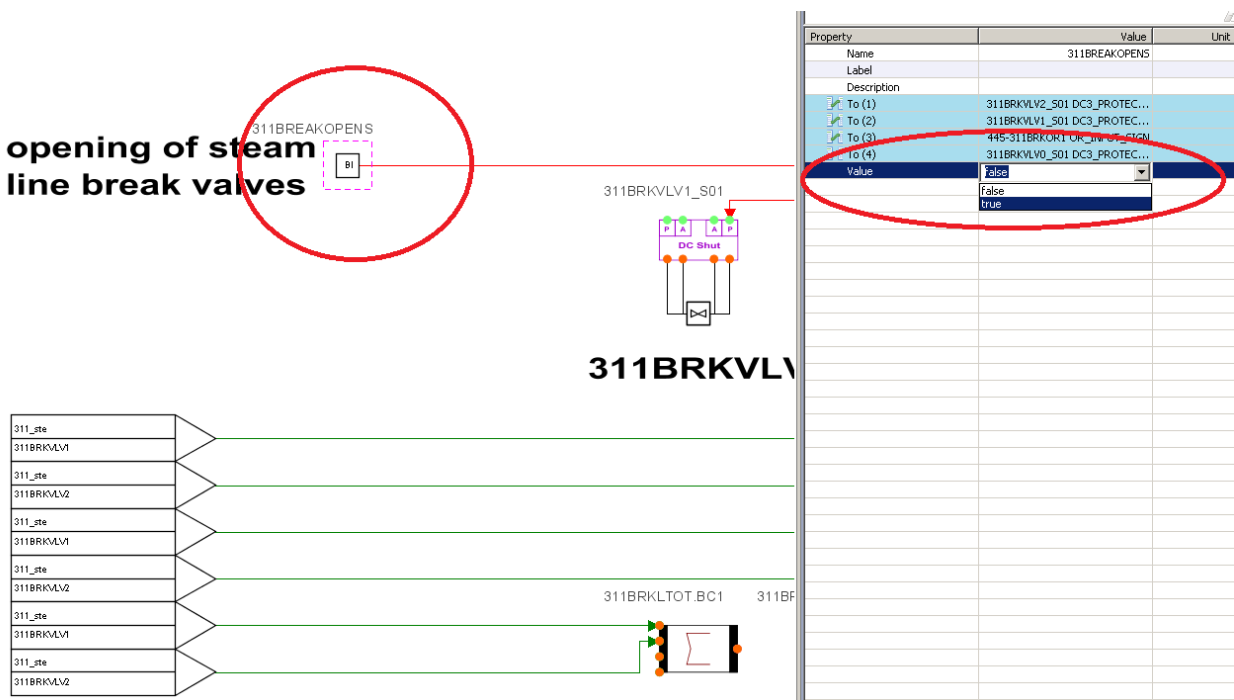

Figure 7. Opening the steam line break valves by activating the “311BREAKOPENS” signal
- Jump from one break valve to net "311_control" diagram. The break valves are opened and the auxiliary valves are closed when signal 311BREAKOPENS is changed from F->T (see Figure 7).